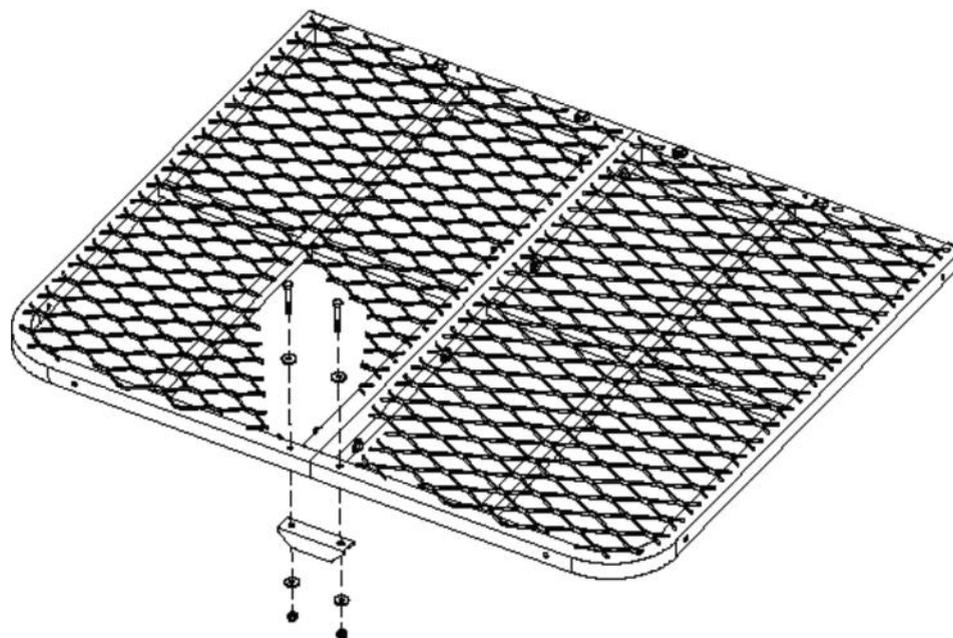

Figure 18
STEP 3: Bolt the rear platform reinforcement bracket to the bottom of the platform using two (2) 1/4" x 1-3/4" bolts, four (4) washers and two (2) locknuts. Place washers under the head of bolts and under the nuts as shown in Figure 18.